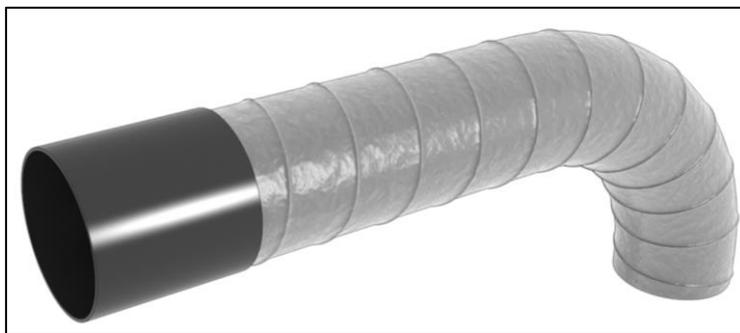

Figure 65. Insert the black hose.
3. Insert the black hose back in its position, see Figure 65